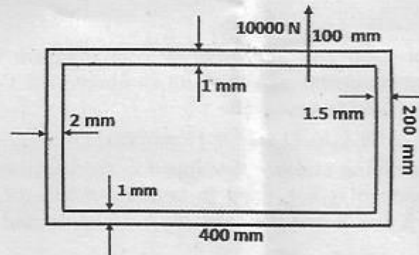

Fig.5
13. (a) Determine the shear flow pattern for the single cell closed section shown in Fig.5.